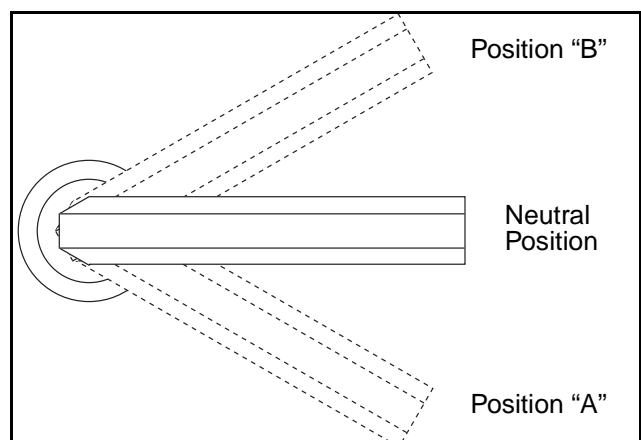

Figure 5 - 13 Finding Neutral Position
- 5) Rotate the adjusting screw clockwise until one of the system pressures starts increasing. Note the position “A” of the allen wrench. Rotate the adjusting screw counter-clockwise until system pressure increases in the other gauge. Note the position “B” of the allen wrench. (Figure 5 - 13)